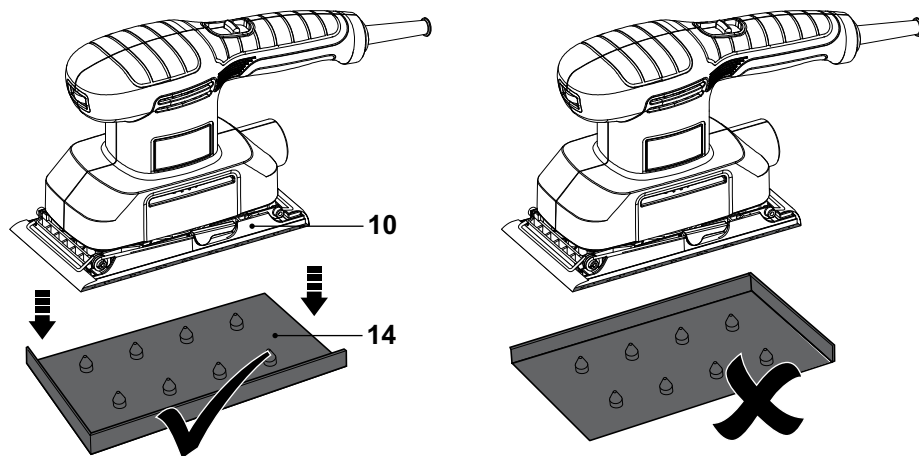

Fig. 8
- > Align the base plate (10) with a fitted sanding paper to the hole punch (14). Ensure that the edges of the base plate (10) are flush with the rim of the hole punch (14).
- > Press the product into the hole punch (14) (Fig. 8).